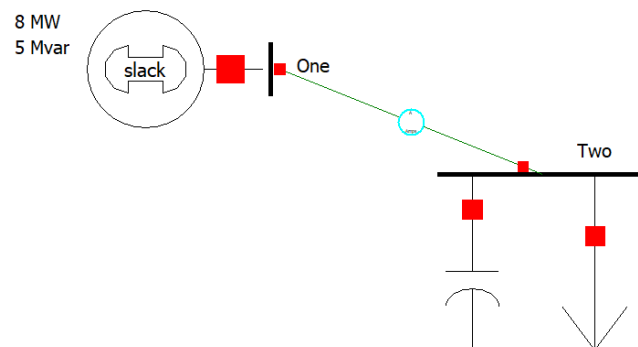

Figure 10- OLD Structure build in PowerWorld
- 8) At this point, the structure of the OLD is complete and your system should look similar to Figure 10.